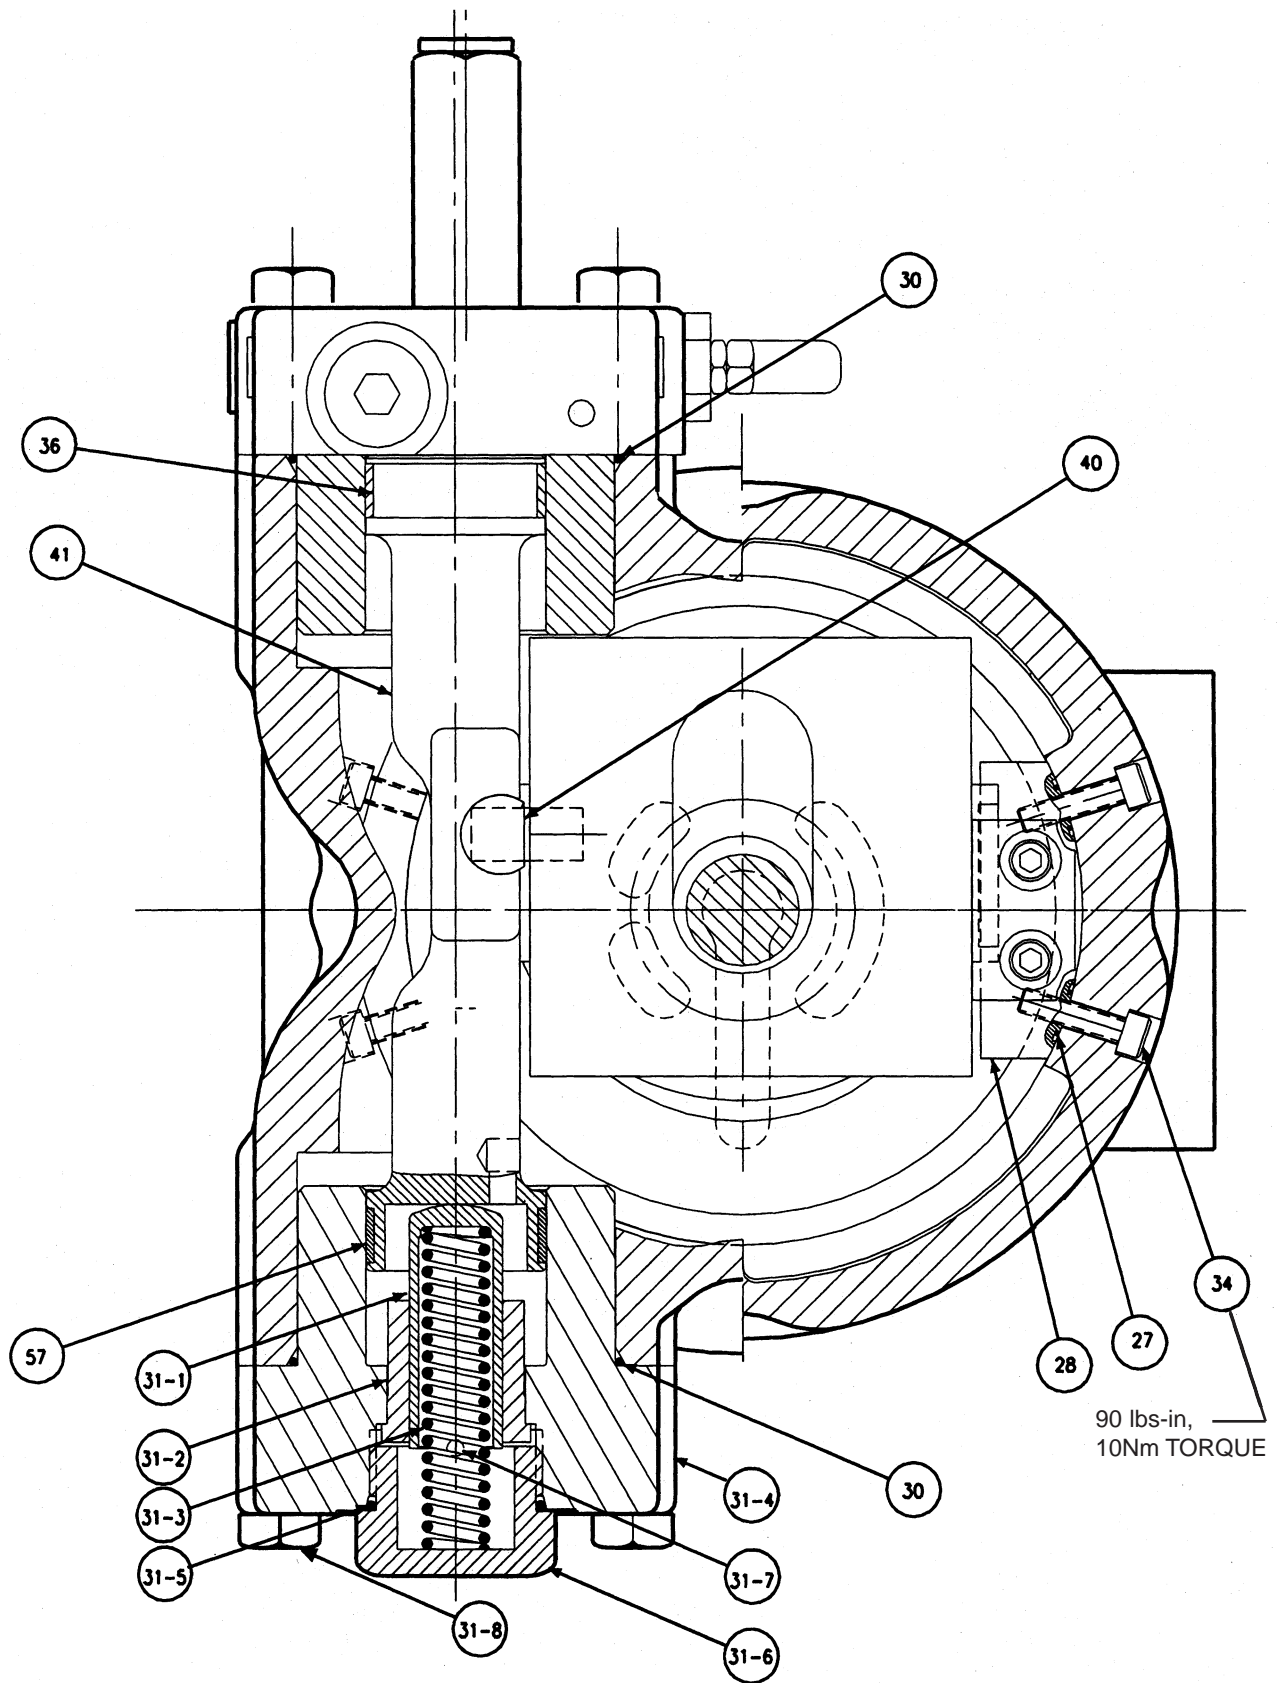
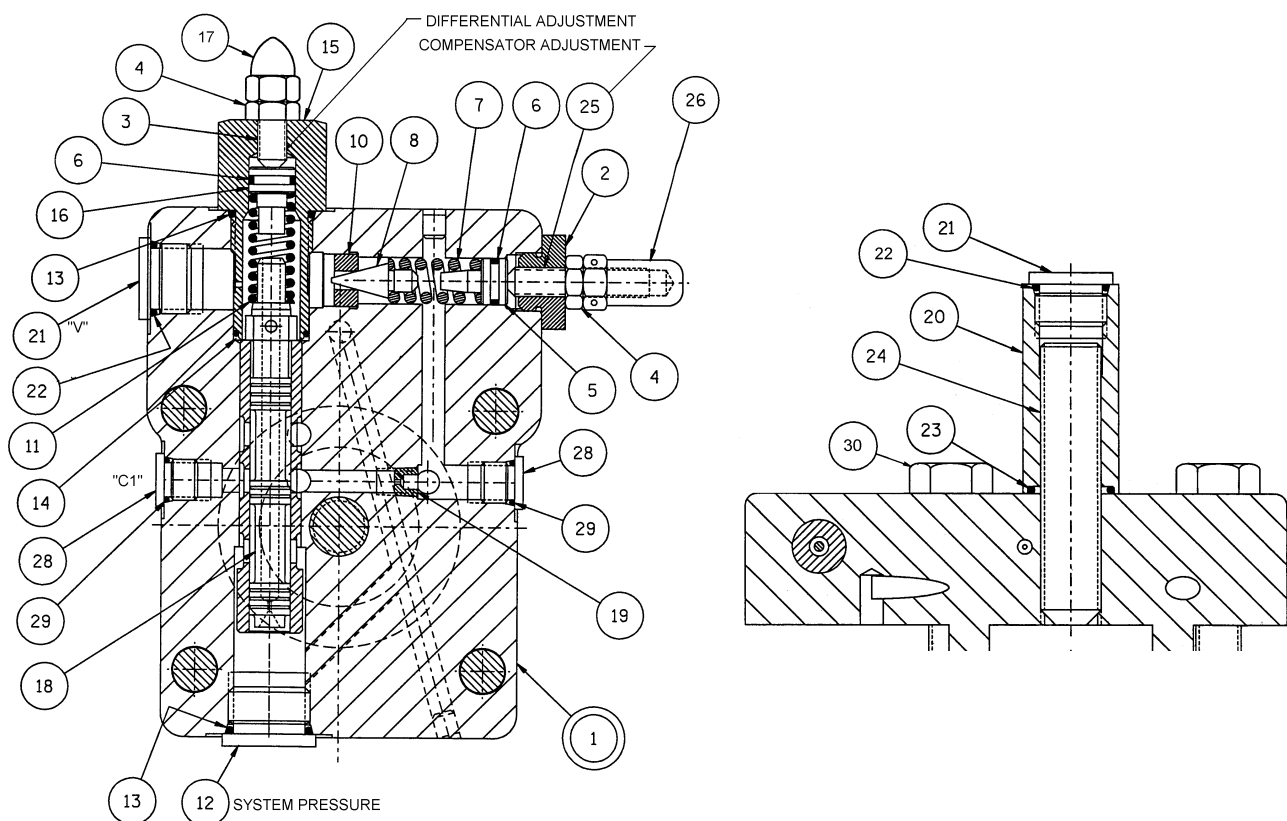

FIGURE 5
FIGURE 7
See Figure 5. Adjust maximum volume screw CCW until piston (41) has bottomed out on control cap.
See Figures 5, 6 and 7. Remove control cap assembly (53) and spring cap (31) by removing eight hex head cap screws.
See Figure 5. Remove four screws (34), and two cam/bearing retainers (28).
Assemble piston rings (36) and (57) to control piston (41). Place control piston (41) into the housing bore that will be used to accept the piston caps. The long end of the piston (the larger diameter for the stroker piston) must be positioned on the bottom as shown in figure 5 for CW shaft rotation. For CCW rotation, the long end of the piston would be on the top. The piston must be moved outward (away from pump center) so that clearance will be provided for installing the rocker cam assembly.
The compensator cap and spring cap must be positioned on the housing for either CW or CCW pump rotation. See Figure 12 for correct orientation. The control piston (41) was assembled previously for the correct pump rotation. Install eight hex head cap screws (31-8 and item 30 fig. 7) into caps and torque to housing with 75 ft-lb, 102 Nm.
Adjust maximum stop screw (24 figure 5) CW until piston (41) bottoms out on spring cap (31) This will place the rocker cam at approximately zero stroke and provide clearance for the shaft installation.
See figure 5. Adjust maximum volume screw (24 figure 7) CCW until piston (41) bottoms out in control cap (1).